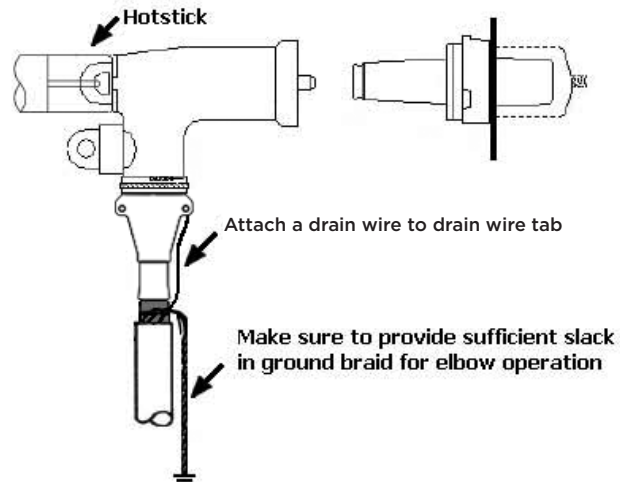

Fig. 10 - Ground Elbow
D. Attach a #14 AWG copper wire (or equivalent) to the drain wire tab of the elbow. Twist the wire at least two turns. Attach the free end to system ground. See Figure 10.
E. Twist neutral wires into a braid and connect to ground with appropriate connector. Make sure to provide sufficient slack in ground braid for elbow operation. See Figure 10.